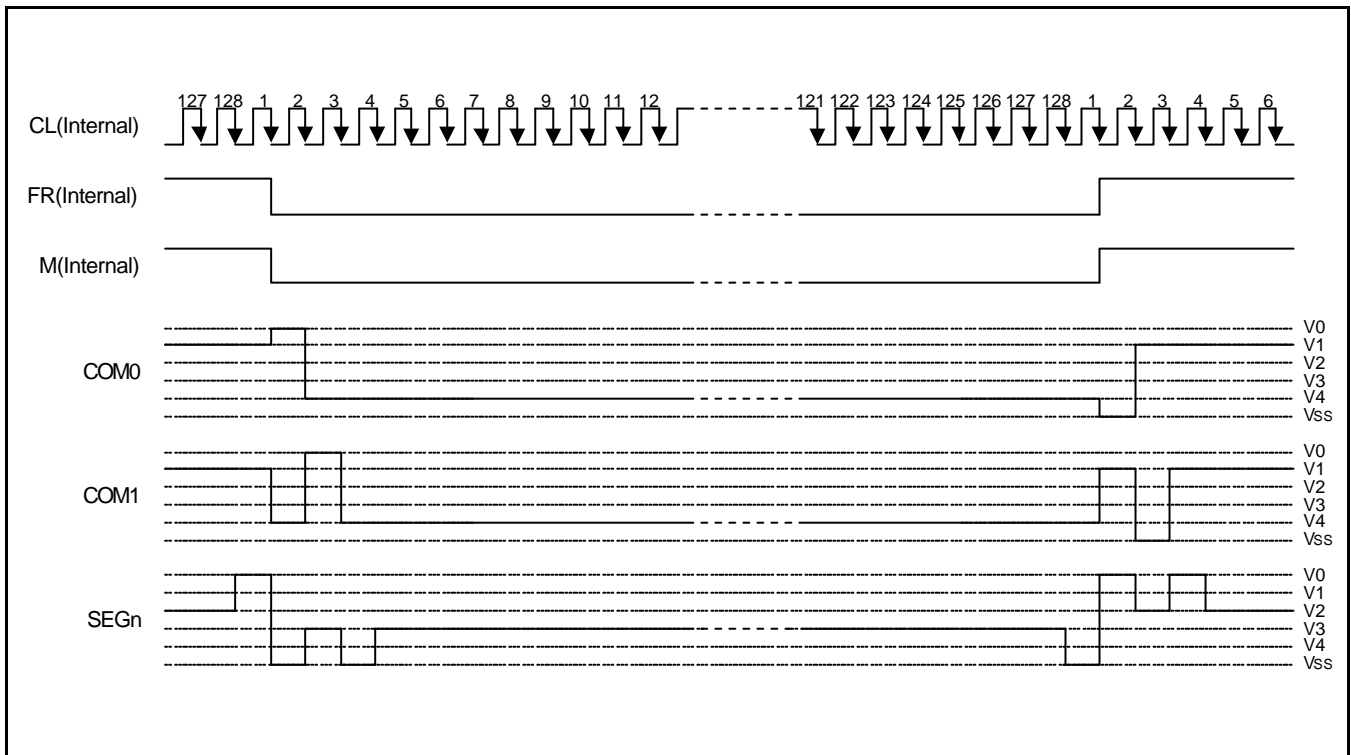

Figure 11. 2-frame AC Driving Waveform (Duty Ratio = 1/128)
This circuit generates some signals to be used for displaying LCD. The display clock, CL(internal), generated by oscillation clock, generates the clock for the line counter and the signal for the display data latch. The line address of on-chip RAM is generated in synchronization with the display clock and the display data latch circuit latches the 128-bit display data in synchronization with the display clock. The display data, which is read to the LCD driver, is completely independent of the access to the display data RAM from the microprocessor. The display clock generates an LCD AC signal (M) which enables the LCD driver to make a AC drive waveform, and also generates an internal common timing signal and start signal to the common driver. The frame signal or the line signal changes the M by setting internal instruction. Driving waveform and internal timing signal are shown in Figure 11.